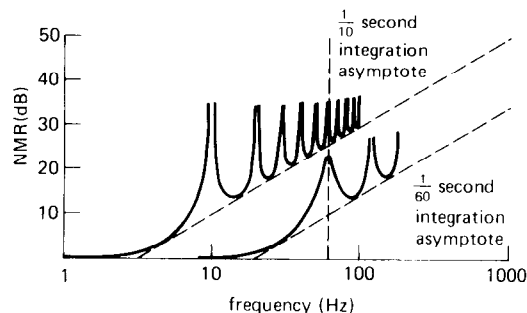

Figure 9.55. Normal-mode rejection with integrating A/D converters.
2. The output is proportional to the *average* input voltage over the (fixed) integration time. By choosing that time interval to be a multiple of the power-line period, the converter becomes insensitive to 60Hz "hum" (and its harmonics) on the input signal. As a result, the sensitivity to interfering signals as a function of frequency is as shown in Figure 9.55 (0.1s integration).